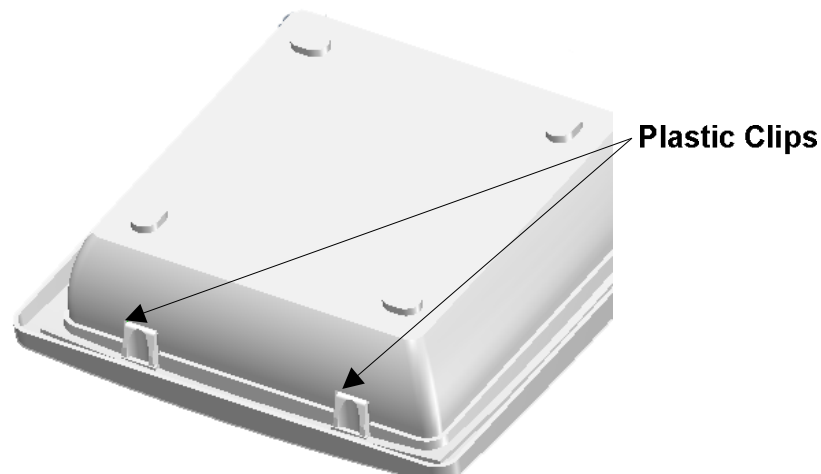
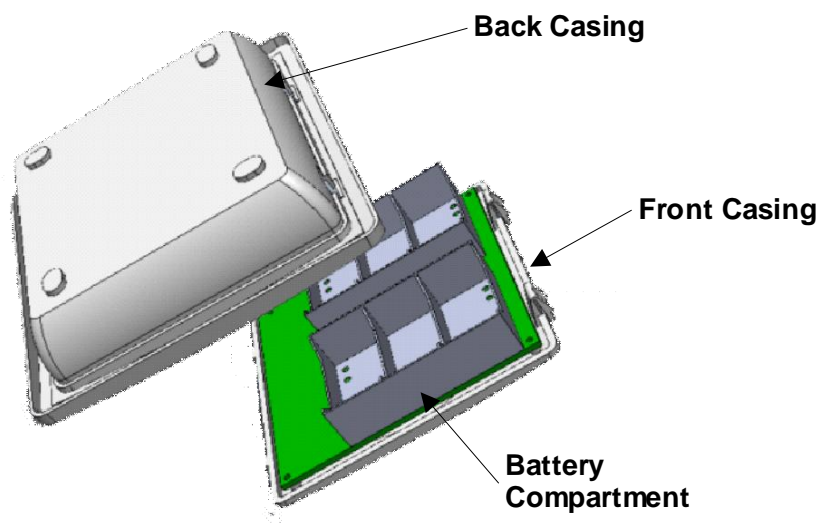

Figure 10: Plastic Clips that Secure Beacon Casing
Figure 11: Separating Beacon Casing
4. Push in the plastic clips at the rear of the back casing and gently separate the back casing from the front casing. The battery compartment is exposed (see Figure 10 and Figure 11).